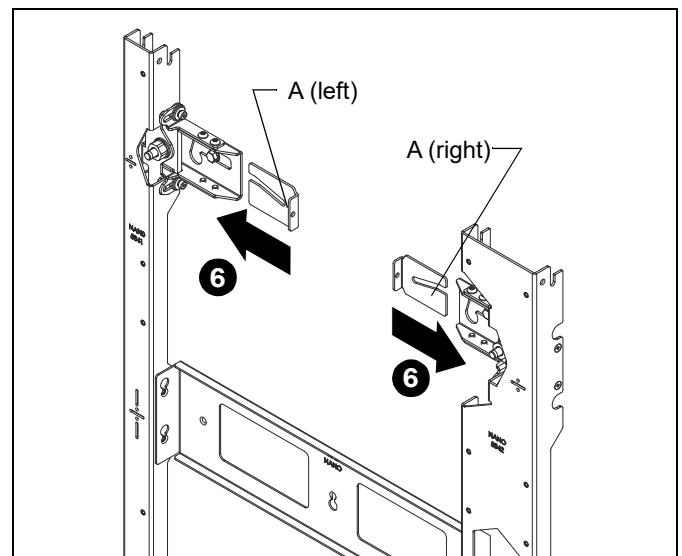

Figure 10
6. Slide the left (A-Left) and right (A-Right) adjustment washers into place behind and partially install lag screws. (See Figure 10)